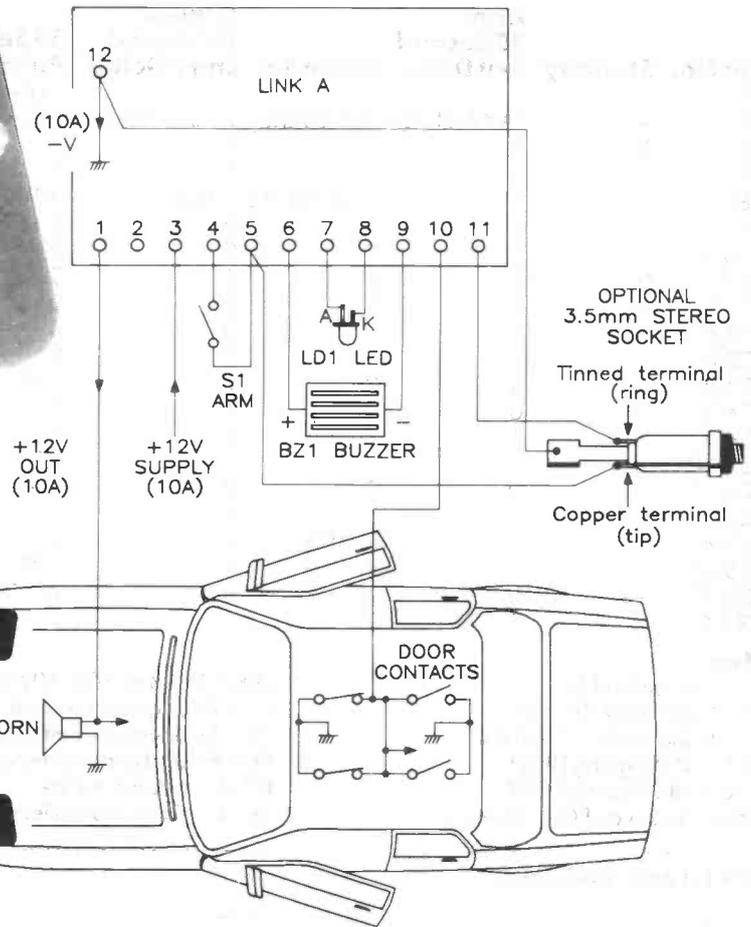

Figure 5. Link A wiring.
All the information required to help you with soldering and assembly techniques, should you need it, can be found in the Constructors' Guide included in the kit (also separately available as stock code LP65V). Removal of a misplaced component can be fairly difficult without causing too much damage, so *please* double-check each component type, value and its polarity where appropriate, before soldering! The printed circuit board (PCB) has a legend to assist you in correctly positioning each item, see Figure 4. Install, solder and trim the excess leads from all the components commencing with the resistors and capacitors, and finishing with the IC sockets, diodes and transistors last. Only after all other components have been fitted do you then carefully insert the relevant ICs into their sockets making sure to correctly align the pin number 1 marker at one end of each DIL package with the white block on the legend. All the ICs in this design are CMOS types which can be at risk from static electric charge during handling, so do not remove them from their protective packaging until they are needed and handle them carefully when you do so. The off-board items LD1, BZ1 and S1 can be temporarily soldered to the appropriate terminals for testing, see Figure 5.
1. If the horn has one of its terminals connected directly to earth (vehicle body) link A must be fitted, see Figure 5.
Make sure that you have the correct link (A or B) fitted and with reference to Figure 5 or 6 proceed as follows:
4. Double check which horn wiring is correct for your type of vehicle, see Figures 5 and 6. Then connect a 10A insulated wire from P1 to the horn as shown.
A dual display driver PCB for the LM3914-16 range of display driver IC's can be used for single DOT or sequential BAR mode control of the 20 LED's. Display brightness is adjustable and FLASH can be determined from any desired LED position. Three types of IC are available from MAPLIN's range which have identical operating characteristics but offer different response of input voltage to display output. Figure 5 is a graphic representation which shows the response curves of these IC's in BAR mode. Each of the LED's (1 to 10) are sequentially operated in turn as the input DC voltage is increased from approximately 50mV to 1.3V, and for the LM3914 a linear scale can be observed. For a logarithmic scale, the LM3915 is chosen, which increments each LED in 3dB steps and the LM3916 is suitable for VU displays.